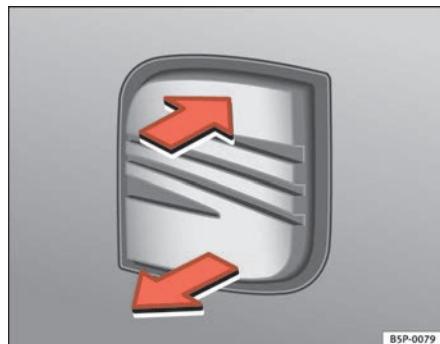

Fig. 45 Tailgate: opening from the outside
- Pull on the release lever and lift the tailgate ⇒ fig. 45. The tailgate will open automatically.